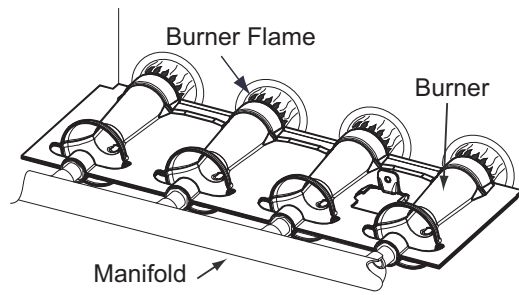

Fig. 59 - Burner Flame
8. Reverse items 6 through 1 for reassembly.
11. Check furnace operation through 2 complete heat operating cycles. Look at burners. Burner flames should be clear blue, almost transparent. See Fig. 59.